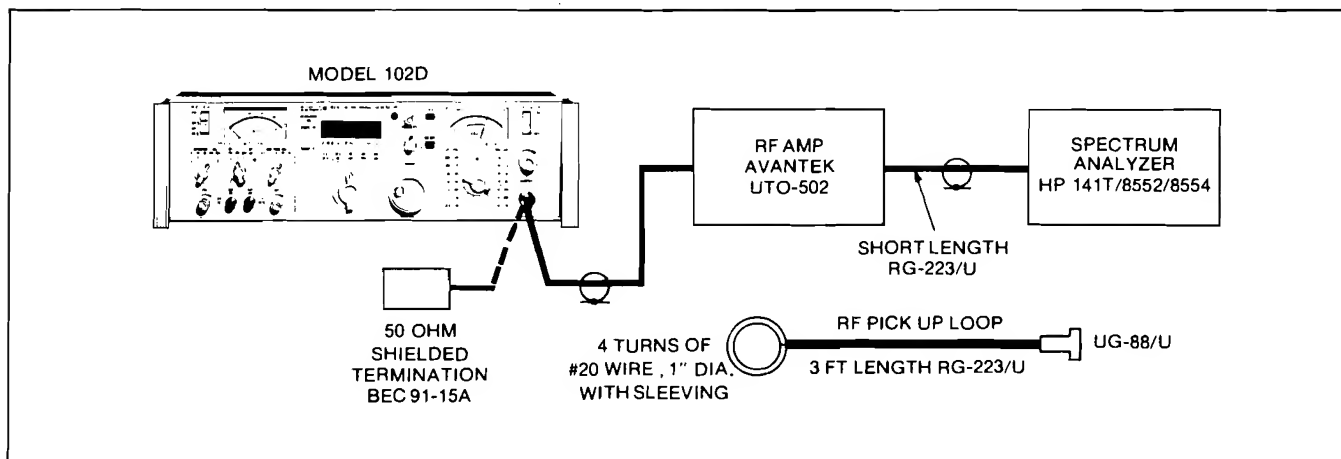

Figure 2-24 RF Leakage Check, Test Setup
a. Connect the Model 102D and test equipment as shown in Figure 2-24.